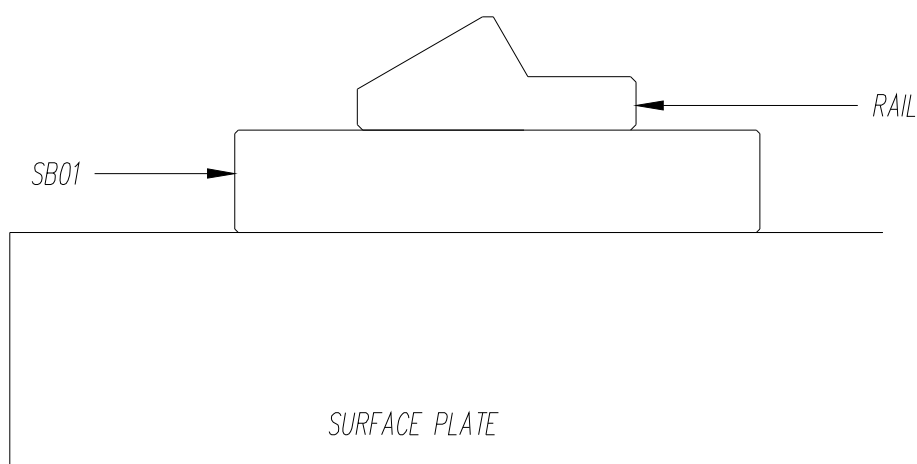

Figure 1
STEP 1. The SB01 and SB02 spacer blocks are designed to aide in off-line presetting of a work piece held in a work holder with a TD03 direct-mount truing device. The SB01 spacer block is to be located between the surface plate and R75-50-8M rail on the truing station as shown in Fig. 1.